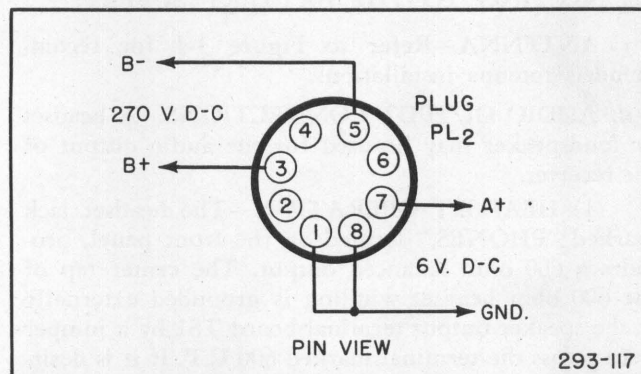

Figure 3-1: Illustration of Plug Connections for D-C Operation.
(2) D-C OPERATION.—To connect the receiver for d-c operation, remove the octal plug (PL2) from the socket (SO1). Use No. 18 (AWG) wire leads for the 270 volt "B" supply connections to pins No. 3 and 5. Use No. 12 (AWG) wire leads for the 6 volt "A" battery connections to pins No. 1, 8, and 7. (Refer to Figure 3-1.)